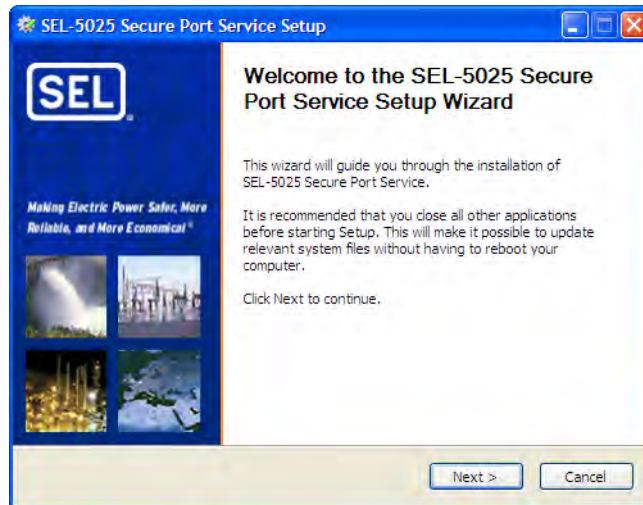

Figure 1.1 The SEL-5025 Secure Port Service Installer
- Step 4. The **SEL-5025 Secure Port Service Setup Wizard** (*Figure 1.1*) will guide you through the installation process. You must have 7.5 MB of available disk space for the SEL-5025 Secure Port Service.